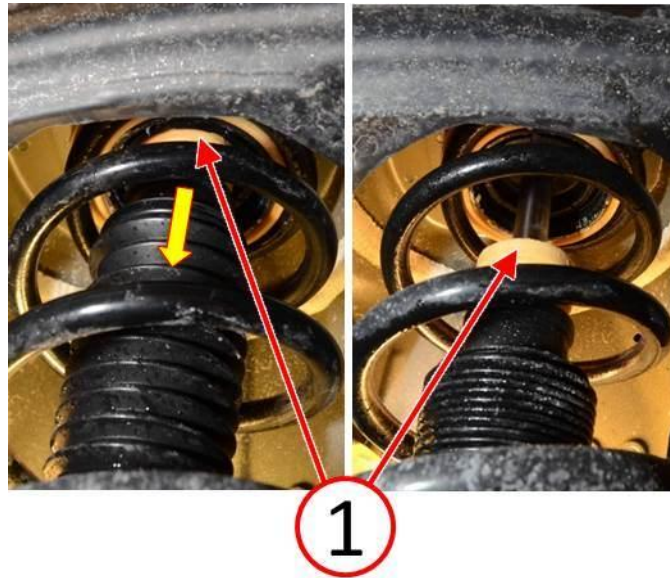

Fig. 1 Lower Jounce Bumper
2. Pull down the jounce bumper to expose the strut mount bushing (Fig. 1).